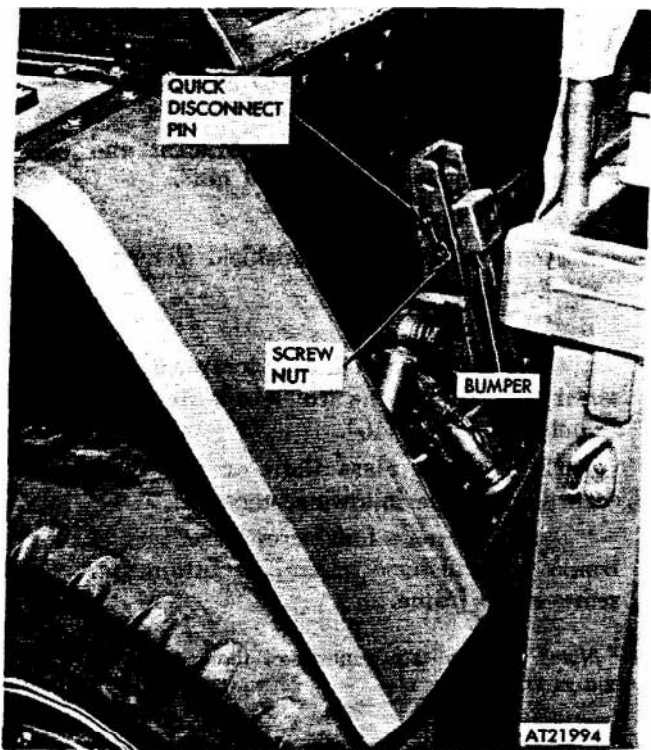

Figure 2-342. Tractor rear bumper assemblies, removal and installation.
a. Removal. Remove quick disconnect pin, screw, and nut securing bumper to tractor I fig 2-342).
b. *Installation.* Position and secure bumper to rear of tractor with screw, nut, and quick disconnect pin (fig 2-342).